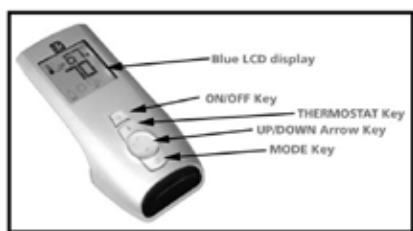
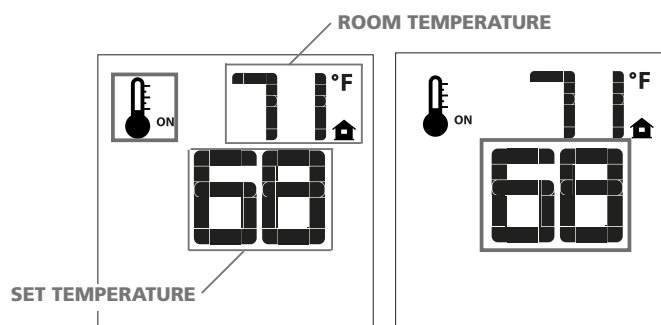
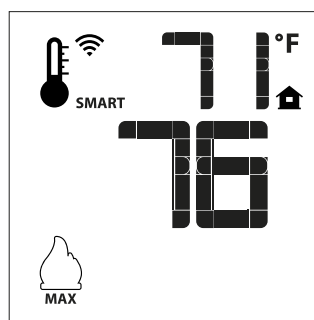
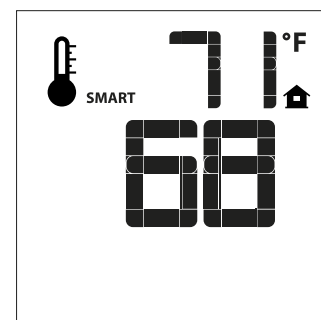

Figure 1 - Proflame Transmitter
Figure 5
Figure 6 - Smart Flame Function
Figure 7
The Proflame Transmitter uses a streamline design with a simple button layout and informative LCD display (Fig. 1).
A Mode Key is provided to Index between the features and a Thermostat Key is used to turn on/off or index through Thermostat functions (Fig. 1 & 2).
Press the ON/OFF Key on the Transmitter. The Transmitter LCD display will only show the room temperature and Icon (Fig. 7). At the same time the Receiver disconnects the thermopile from the gas valve millivolt coil and the appliance burner turns off. A single "beep" from the Receiver confirms reception of the command.
The Remote Control can operate as a room thermostat. The thermostat can be set to a desired temperature to control the comfort level in a room. To activate this function, press the Thermostat Key (Fig. 1). The LCD display on the Transmitter will change to show that the room thermostat is "ON" and the set temperature is now displayed (Fig. 5). To adjust the set temperature, press the Up or Down Arrow Keys until the desired set temperature is displayed on the LCD screen of the Transmitter.
The Smart Thermostat function adjusts the flame height in accordance to the difference between the set point temperature and the actual room temperatures. As the room temperature gets closer to the set point the Smart Function will modulate the flame down. To activate this function, press the Thermostat Key (Fig. 1) until the word "SMART" appears to the right of the temperature bulb graphic (Fig. 6). To adjust the set temperature, press the Up or Down Arrow Keys until the desired set temperature is displayed on the LCD screen of the Transmitter (Fig. 7).
If the appliance is equipped with a hot air circulating fan, the speed of the fan can be controlled by the Proflame system. The fan speed can be adjusted through six (6) speeds. To activate this function use the Mode Key (fig.1) to index to the fan control icon (Fig. 8). Use the Up/Down Arrow Keys (Fig.1) to turn on, off or adjust the fan speed (Fig. 9). A single “beep” will confirm reception of the command.
The auxiliary function controls the AUX power outlet on the Fan Control Module. To activate this function use the Mode Key (fig. 1) to index to the AUX icon (fig. 10 & 11). Pressing the Up Arrow Key will activate the outlet. Pressing the Down Arrow Key will turn the outlet off. A single “beep” will confirm the reception of the command.